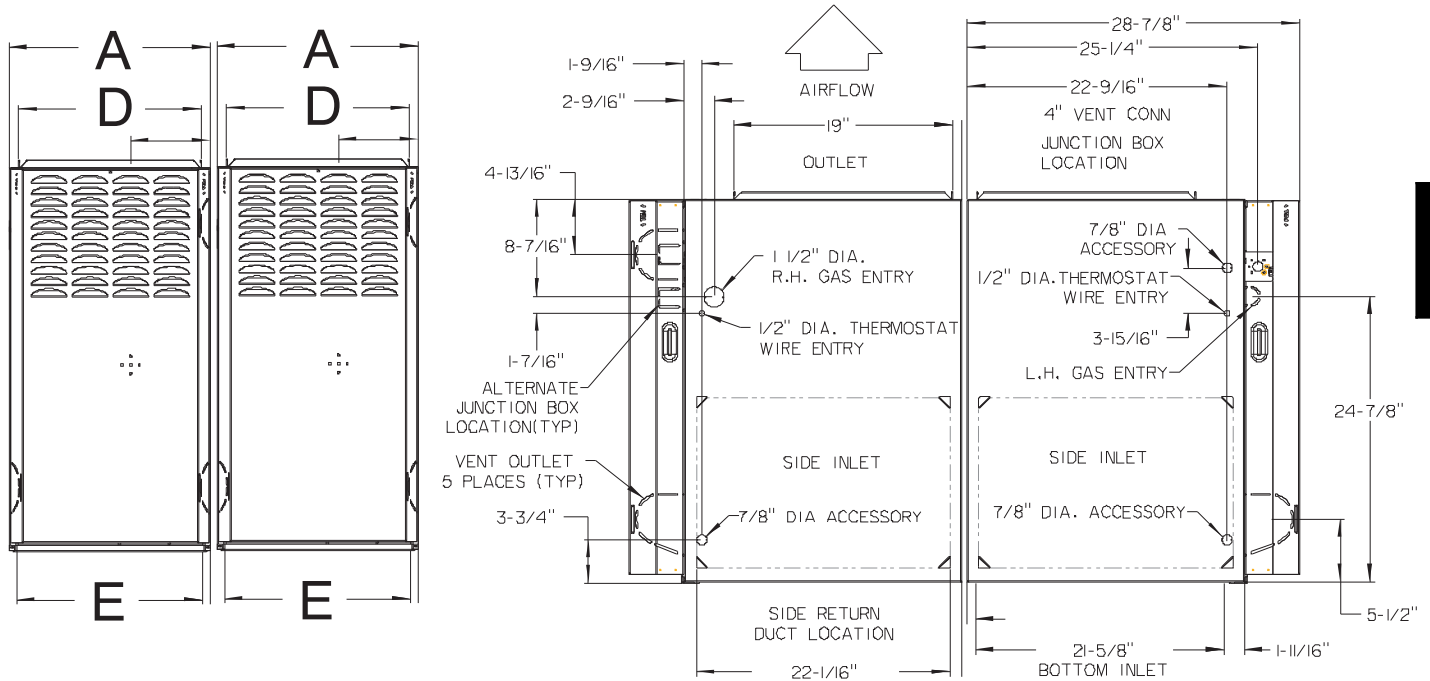

Fig. 3 - Dimensional Drawing
Refer to Fig. 3 and Table 2 for appearance and dimensional drawing of twinned furnaces and their connection locations.
6. Remove 7/8-in. diameter accessory hole knock-outs in blower compartment from mating sides of furnaces. (See Fig. 3.)
Return air can only be connected to bottom opening of furnace. A common return air plenum is required for proper auxiliary limit switch operation. (See Fig. 3.)
6. Determine which side of furnace will be used to route external extension harness. Remove 7/8-in. diameter accessory hole knockouts in blower compartment side selected to attach harness to. (See Fig. 3.)